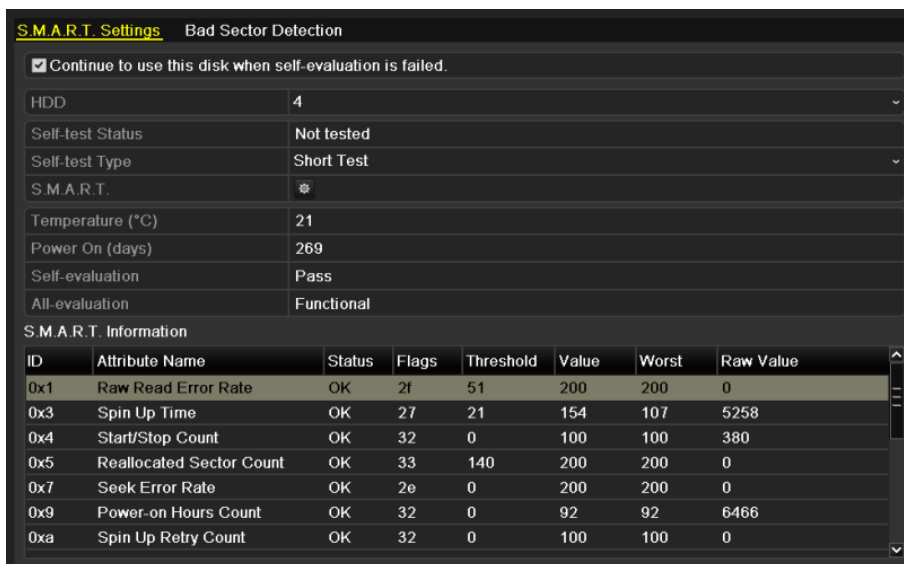

Figure 12-25 S.M.A.R.T Settings Interface
Step 2 Select the HDD to view its S.M.A.R.T information list, as shown in Figure 12-25.